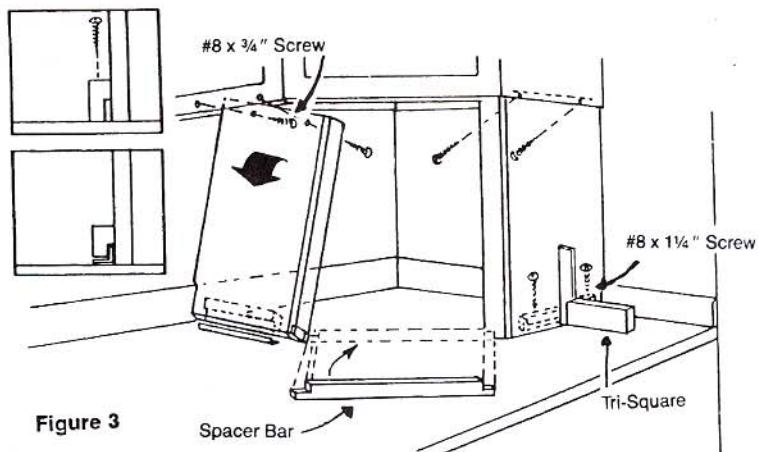

Figure 3
Step #4 – Clean countertop area thoroughly with strong detergent to remove any oils or films. Let dry completely. Position right end panel square with countertop. With end panel in position draw a line around the bottom cleat. Remove the end panel. Remove the protective tape from the bottom side of one plastic L-bracket and place it on the line, aligning the inside edge of the bracket with the line. (Vertical leg of the bracket should be opposite the line, toward the outside edge of the cabinet) Press firmly against the bracket insuring that it has adhered completely. Remove the tape from the top side of the L-bracket. Tilt the end panel aligning it so that the slot in the bottom cleat will fit over the vertical leg of the L-bracket. While still in the tilted position, push the end panel against the back wall, then stand the panel vertical. (See Figure 3 Left Panel) See Note *
Step #6 – Place spacer bar at appliance garage opening against right end panel. Position left end panel insuring a snug fit against both shoulders of the spacer bar. (See Figure 3)
*Note: This application is provided in order to keep your countertop free of unnecessary holes, especially when installing over a tile countertop. If proper adhesion cannot be attained, predrill countertop and secure bottom cleat to countertop with two (2) #8x1 1/4" screws provided. (See Figure 3 Right Side)